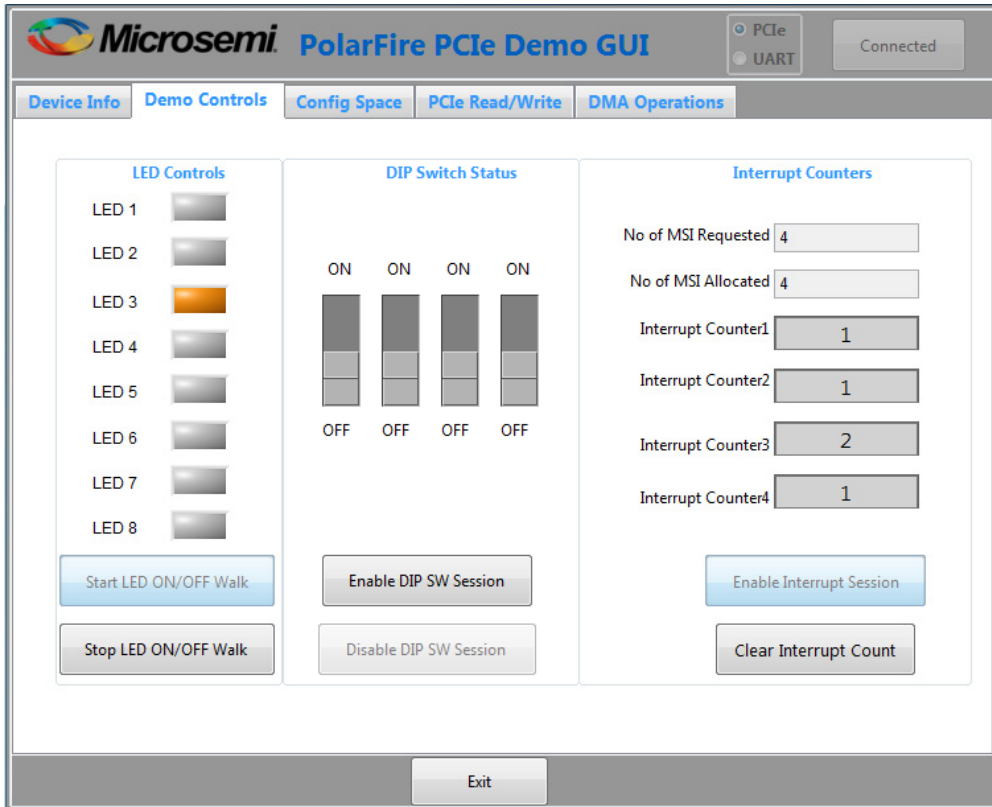

Figure 34: Demo application - Demo Controls tab - LED walk and push button interrupt count
5. Click Start **LED ON/OFF Walk** and **Enable Interrupt Session** to view the controlling LEDs and monitoring the interrupts simultaneously as shown in Figure 34.